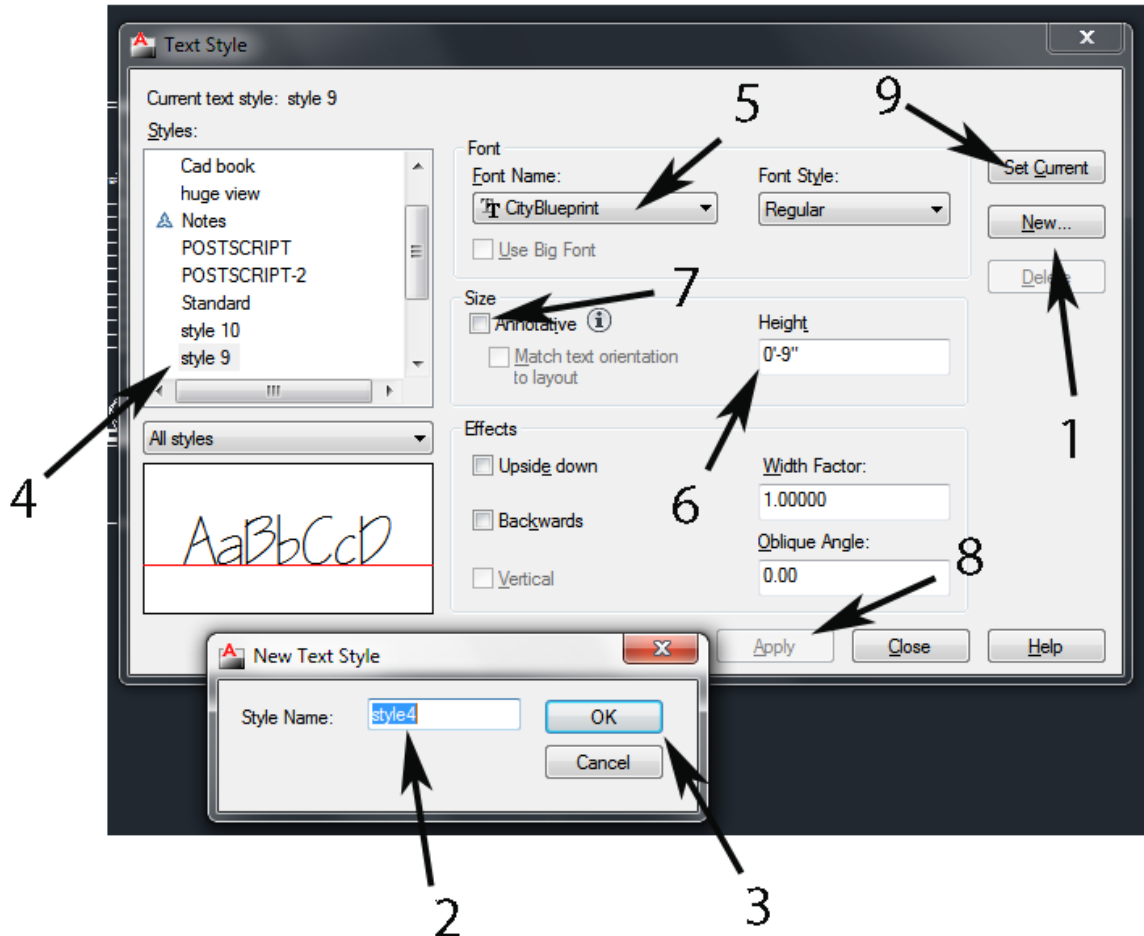

Fig 1-48
Now we must **create a text style**. Type: **style**. The **Text Style dialog box** will pop up (Fig 1-48). Click **New** (1 in Fig 1-48). **Name the style** in the window (at 2 in Fig 1-48), type: **style 9**. Then click **Okay** (3).
Back in the **Text style dialog box** click the **style 9** selection (4). Click on the drop down menu under **Font Name** (5) and select **City Blueprint**. **Highlight the Text Height** (at 6 in Fig 1-48) and **over type: 9**. **Uncheck the Annotative** box (7). Click **Apply** (8), then **Set Current** (9), then **Close** (see Appendix I—Text for more info).